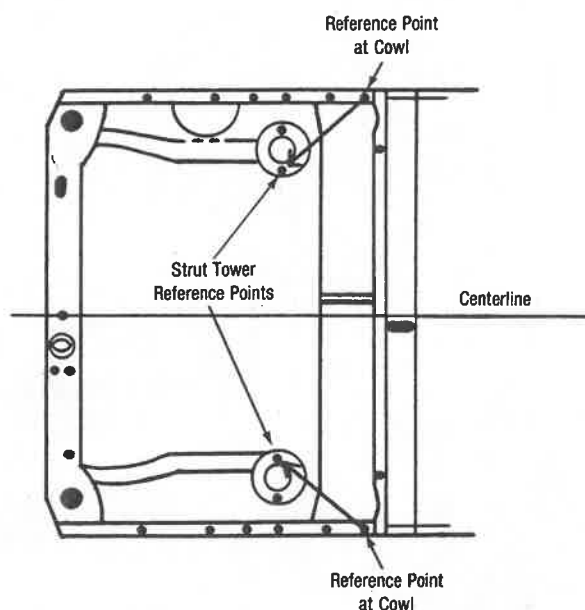

Figure IV-35
- 4) To measure the forward position of a strut tower relative to reference points at the cowl, extend a Tram Gauge (or tape measure) from a reference point at the cowl to the strut tower reference point. (See Figure IV-35.)